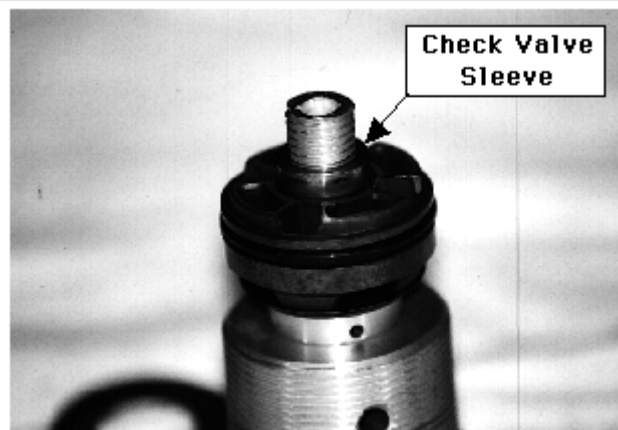

Fig 13
24. Install the check valve sleeve, **fig 13**, on the shaft making sure it fits into the recess in the Gold Valve. Install the check valve plate and spring.